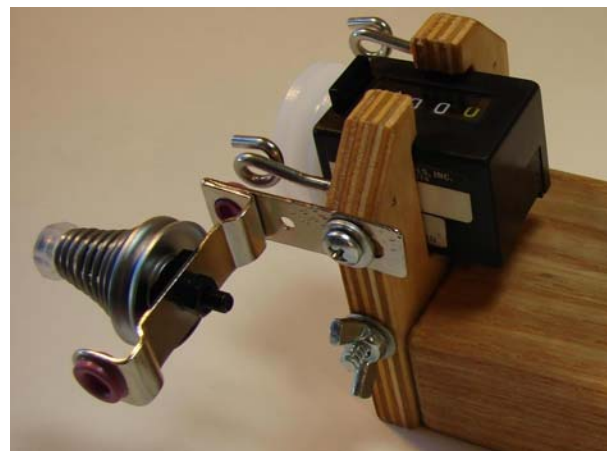

Figure 2 – Tensioner Installed
5. Replace the Counter into its Bracket and secure it with the bolt, washer, and wing nut and place the Thread Guide back into the track in the Bobbin Winder Platform (see Figure 2 for fully installed AVL Tensioner Bracket).